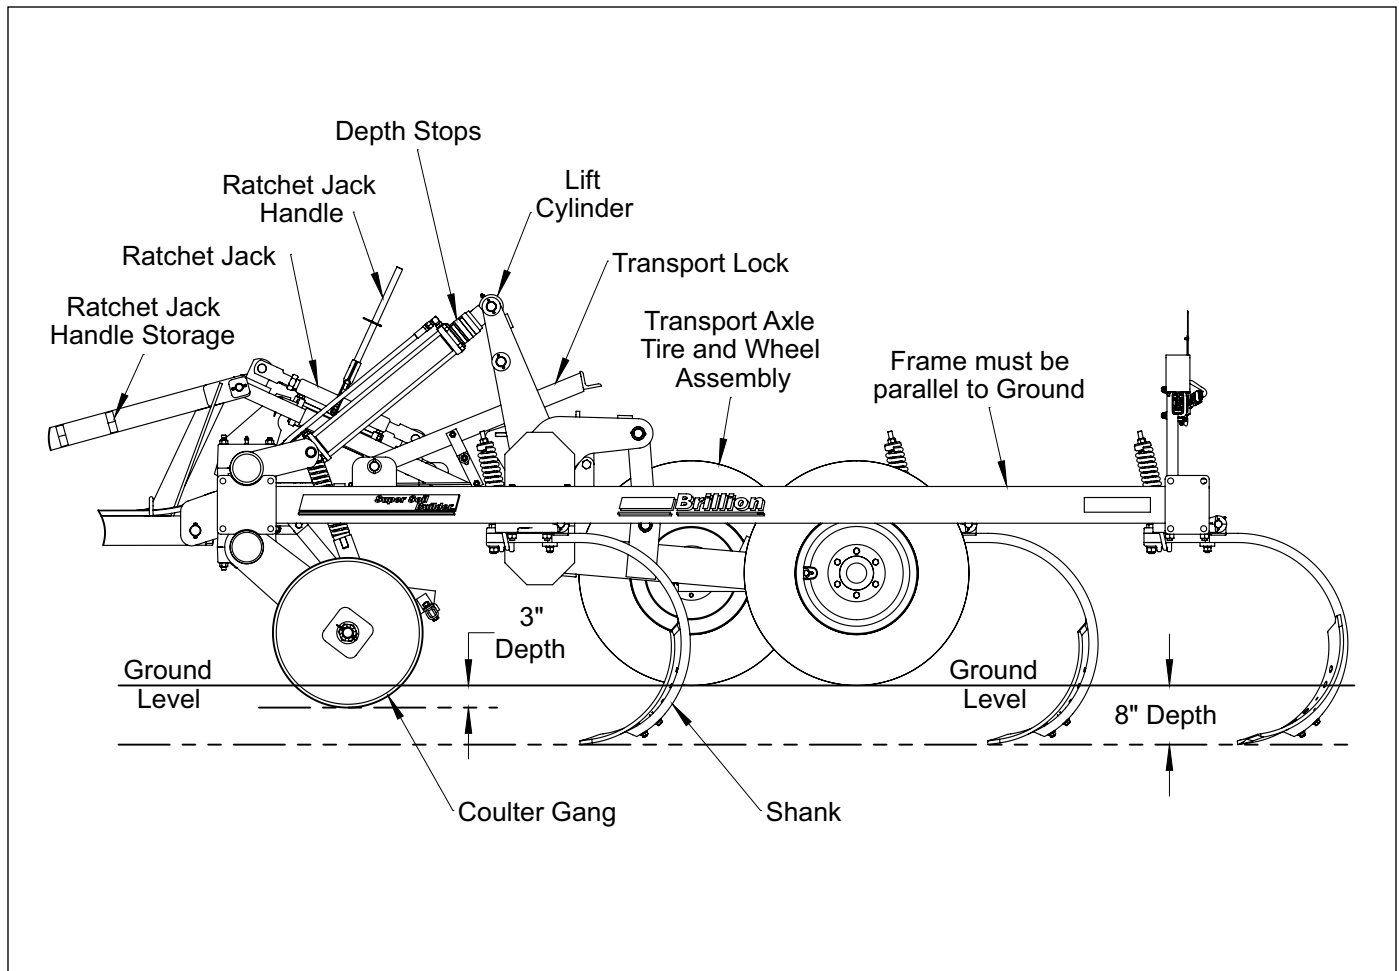

Figure 3-4: Shank depth
3. Shank Depth is controlled by the Transport Axle. Install the appropriate depth stops on the Lift Cylinder Rod. Maximum shank working depth is approximately 10 inches. A good starting point is to set the Shanks 8" deep by adding 3" of Depth Stops to the Lift Cylinder and to set the Coulter Gangs 3" deep. **See Figure 3-4.**
2. Lower the machine to the desired working depth and install the appropriate Depth Stops onto the Lift Cylinder Rod. Maximum shank working depth is approximately 10 inches. A good starting point is to set the Shanks 8" deep by adding 3" of Depth Stops to the Lift Cylinder. **See Figure 3-4.**
3. Set the Adjustable Coulter Gangs to the desired depth by hydraulically operating the Coulter Gang Cylinder or by manually moving the pins to the proper holes in the Spring Holder Assembly. A good starting point is to set the Coulter Gangs 3" deep. **See Figure 3-4.**